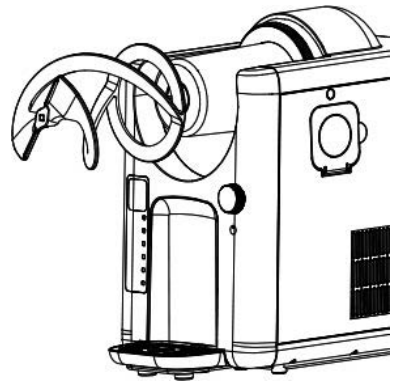

Fig. 2
8. Place the mixer onto the square drive pin, as shown in Figure 2, and slide it fully onto the cooling cylinder.